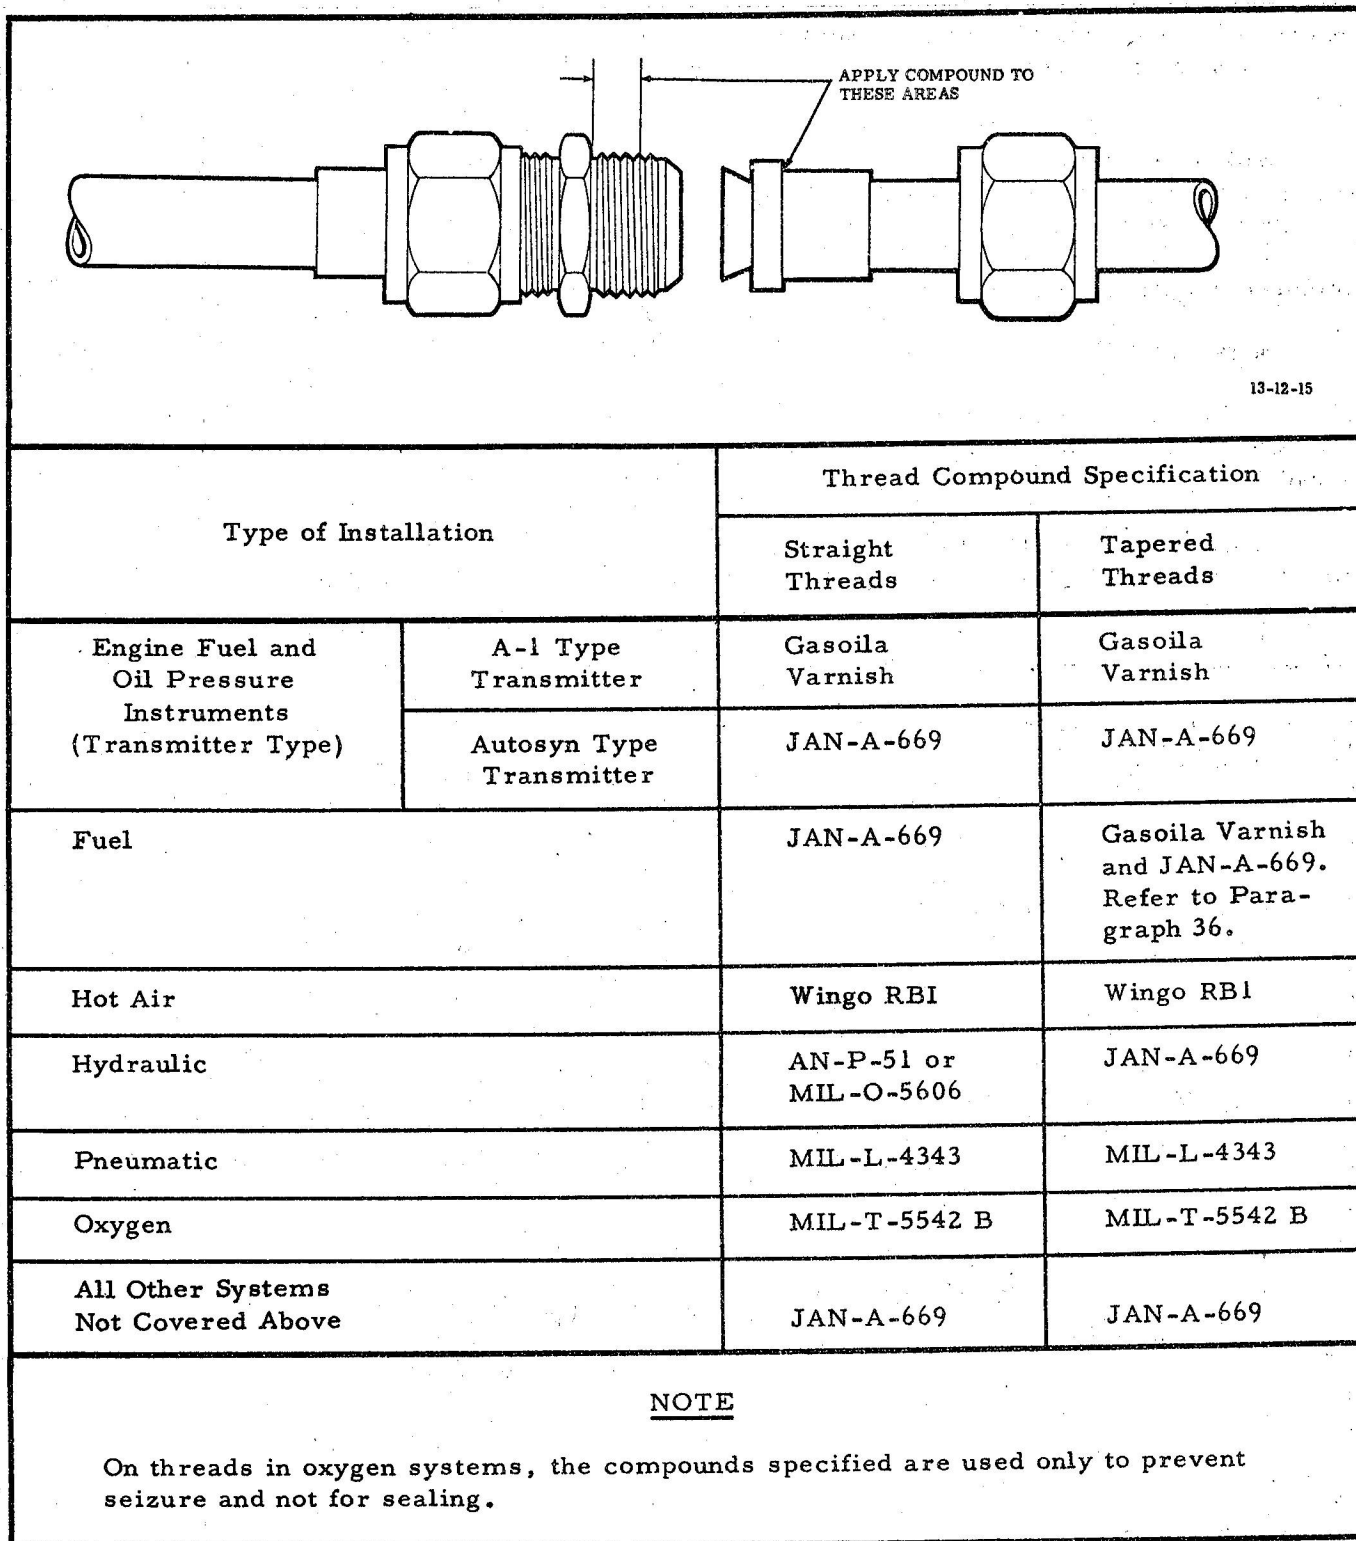

Figure 20 Thread Compound Application
(1) Apply a thin coat of lubricant, in accordance with Figure 20 following to the level on the sleeve shoulder and all but the first two threads on the male fitting.
(2) Place the line assembly with pre-set sleeve in the installed position, making certain that the sealing surfaces are not scratched during installation and that the sleeve meets the fitting squarely and fully. In order to obtain correct alignment of the line assembly, both tube ends must bottom freely on the reverse angle seats of their fittings, before either of the nuts is engaged. The line assembly should be supported while connecting as well as during subsequent tightening of the nuts. Clips, clamp block and adjacent structure must not restrict free movement of the line assembly, during these operations.
31 With taper threads, no gasket is used. Thread compounds for both straight and taper threads are listed in Figure 20.
- (a) Apply the selected compound sparingly and carefully to the male threads only, but not to the first two male threads to engage the female threads, see Figure 20.
- (b) Where connections are of the type using a coupling sleeve (Item 17), or similar, apply a thin coat of the selected compound to the back of the shoulder of the sleeve, see Figure 20. Use a small stiff brush for this purpose.